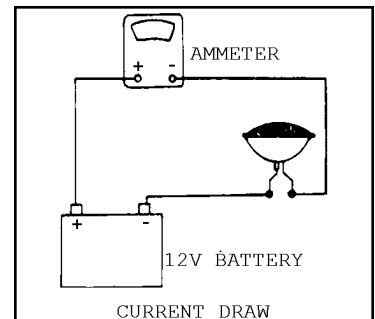

Figure 7
3. Used in a closed circuit. See **Figure 7**.